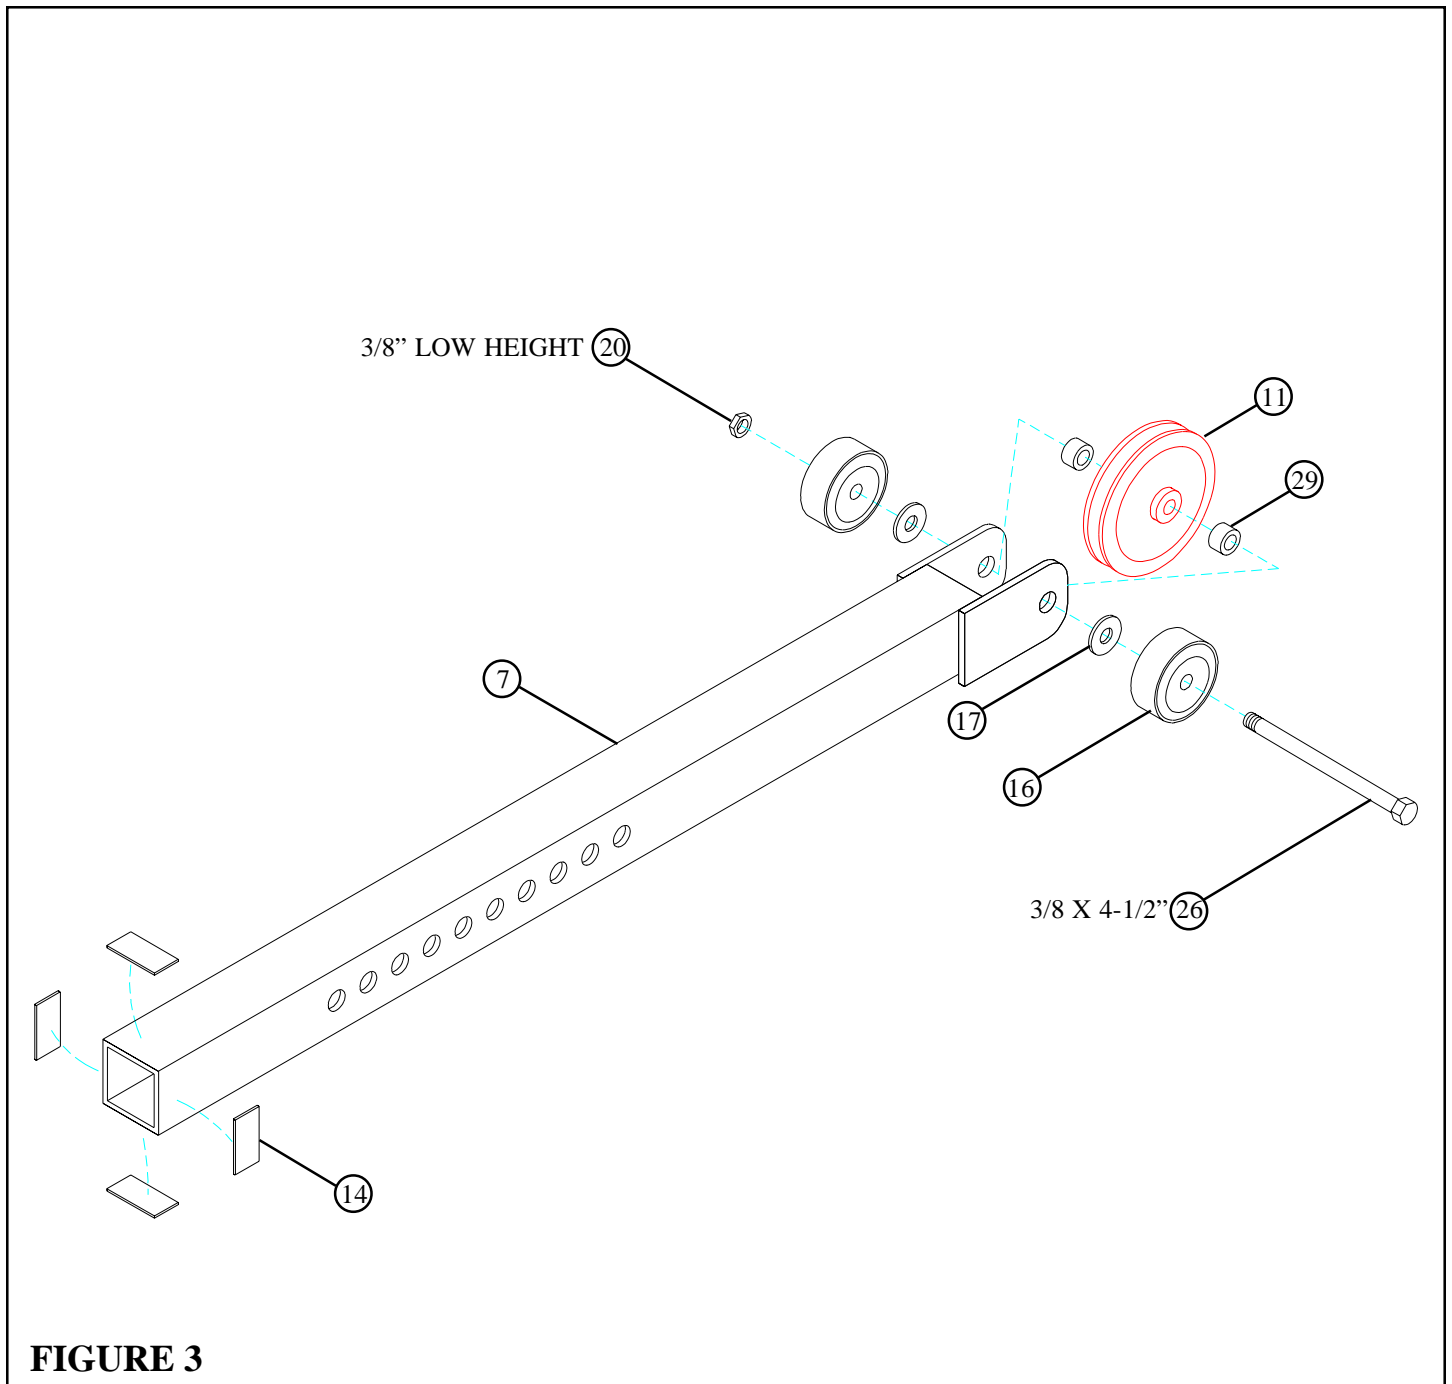

**FIGURE 2**
- Insert two 2" SQ. ENDCAPS (13) into the ends of the SEAT FRAME (2) as shown in FIGURE 2.
- **SECURELY** assemble one 3/8" SPRING PIN (33) to the spring pin barrel on the SEAT FRAME (2) as shown in FIGURE 2.
- Attach four PARAGLIDE STRIPS (14) to the *inside* of the SEAT FRAME (2) using the following steps:
- Thoroughly clean all surfaces where the PARAGLIDE STRIPS (14) are to be attached.
- Remove the PARAGLIDE STRIPS (14) from the paper backing and firmly apply them to all shown surfaces.